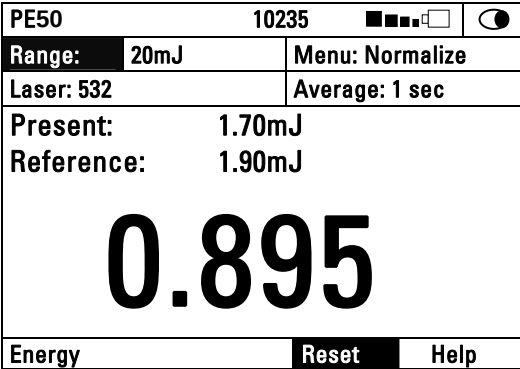

Figure 6.3
2. When ready to normalize, press “apply”. From then on, the energy will be proportional to the normalized energy value. (See Figure 6.3).